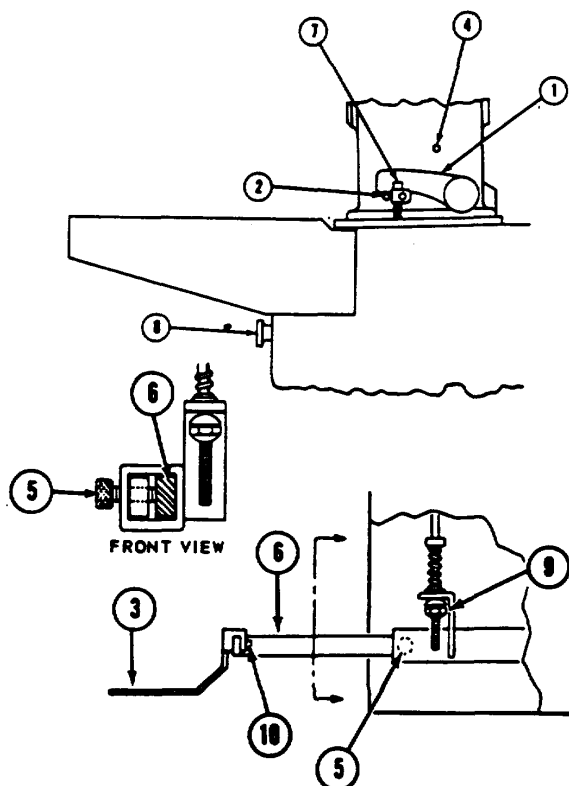

FIGURE 97
d. PEDAL ADJUSTMENT (Figure 97)
1. CHECK: Crank Arm (1) must hit Lower Stop Pin (2) when Pedal (3) is between 1/4" and 1/2" from floor. When Pedal is released, Crank Arm should just hit Upper Stop Pin (4).
2. TO ADJUST: Depress Pedal to gain easiest access to Pedal Clamp Screws (5) (one on each side) from front of machine. Using T-Wrench furnished with machine, loosen the Screws. Adjust Pedal Bar (6) in or out to a convenient position, making sure Pedal Bar extends equally on both sides to prevent binding. Retighten Clamp Screws.
3. Using T-Wrench, adjust Screw (7) to make sure Crank Arm hits Lower Stop Pin when Pedal is 1/4" to 1/2" above the floor.
4. Rotate Pedal Bar Tension Control (8) clockwise until Crank Arm will just hit Upper Stop Pin (4). (If Pedal Bar is readjusted in or out, the preceding two settings may have to be changed.)